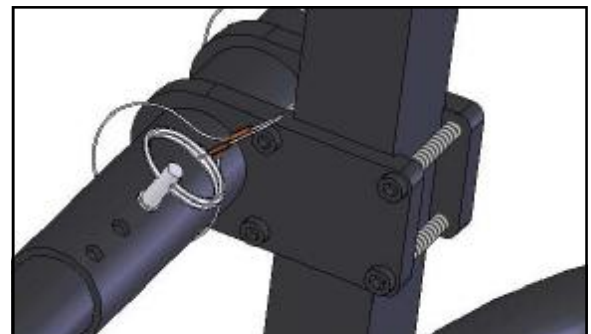
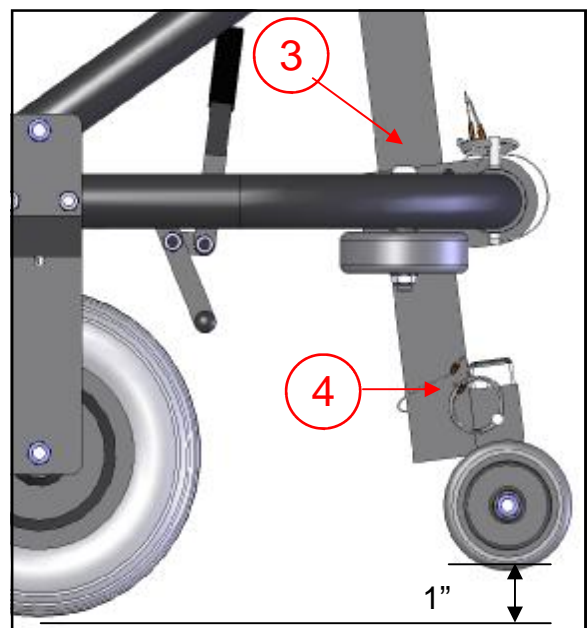

Figure 4B
Figure 4C
2. Loosen the rear eight Allen screws on each of the 2 tube adjustment clamps (1). Figure 4B.
3. Remove the front two Allen screws from each of the 2 tube adjustment clamps (2).
4. Slide the column adjustment tube (3) through the tube clamps.
6. Position the column adjustment tube (3) so that the anti-tipper wheel (4) is at least 1" from the ground. Figure 4C.